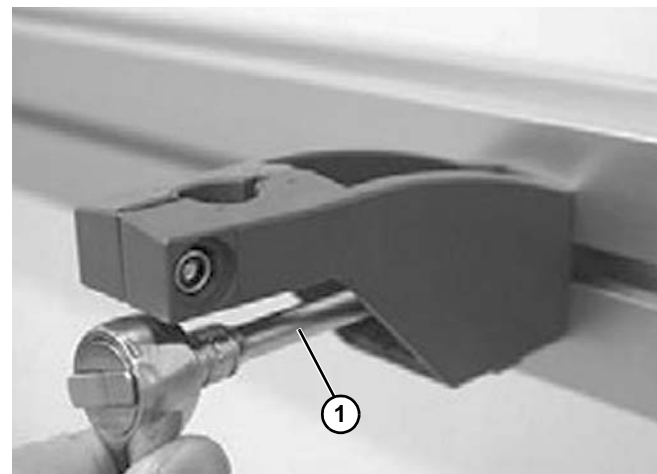

Figure 91
2. Attach the bracket onto conveyor beam and tighten with a socket wrench (Figure 91, item 1). Install upper and lower caps.